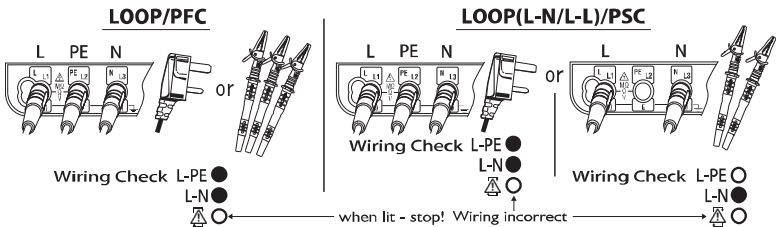

Fig. 29
- (1) Press the Power button and turn on the instrument. Turn the Function switch and set it to either the LOOP or PSC/PFC position.
- (2) Insert the Test Lead into the instrument. (Fig.29)
After the connection, ensure that the symbols for Wiring check on the LCD are in the status indicated in Fig.29 before pressing the test button.
If the status of the symbols for Wiring check differ from Fig.29 or  symbol is indicated on the LCD, DO NOT PROCEED AS THERE IS INCORRECT WIRING. The cause of the fault must be investigated and rectified.